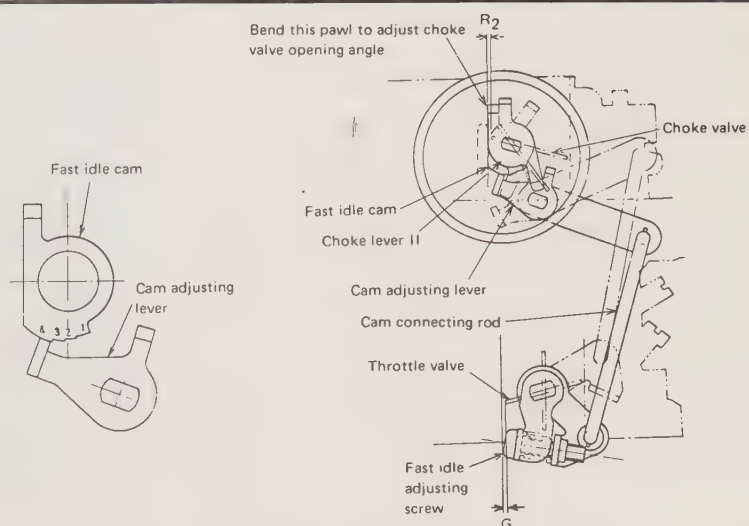

Fig. 3.14. Fast idle mechanism - automatic choke
- 2 Measure the clearance between the lower edge of the primary throttle valve and its bore, 'G' in Fig. 3.14. If the clearance is not as specified in Specifications at the beginning of this Chapter, adjust by means of the fast idle adjusting screw.